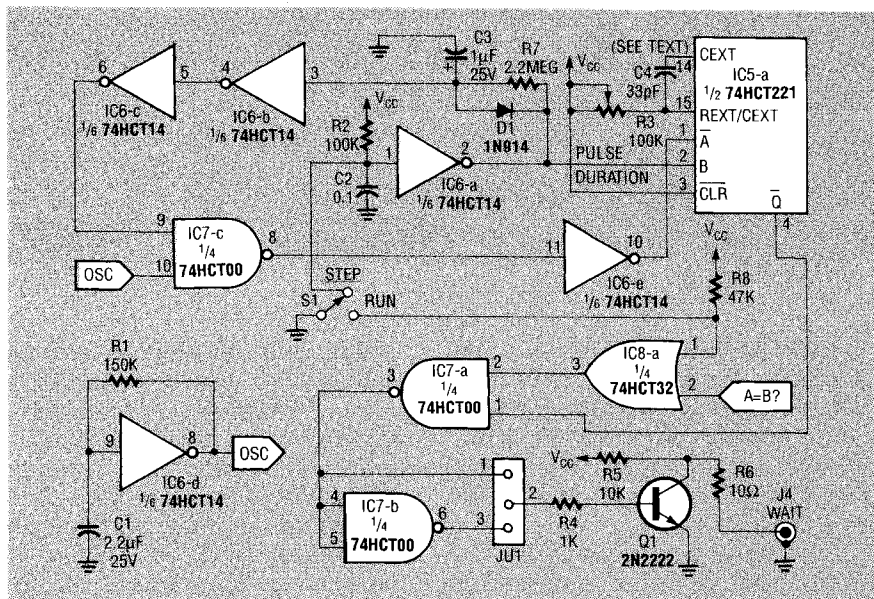

FIG. 2—THE SINGLE-STEP CIRCUIT provides four modes: Run, Stop, Step, and Autostep.
**Single-step Circuit.** This circuit consists of the logic shown in Fig. 2. Switch S1 selects one of four stepping functions (Run, Stop, Step, Autostep), all of which are executed by controlling the WAIT or READY line of the target microprocessor. Switch S1 is special: It is an SPDT type with a center "off" position, and a spring return on only one side (Step).